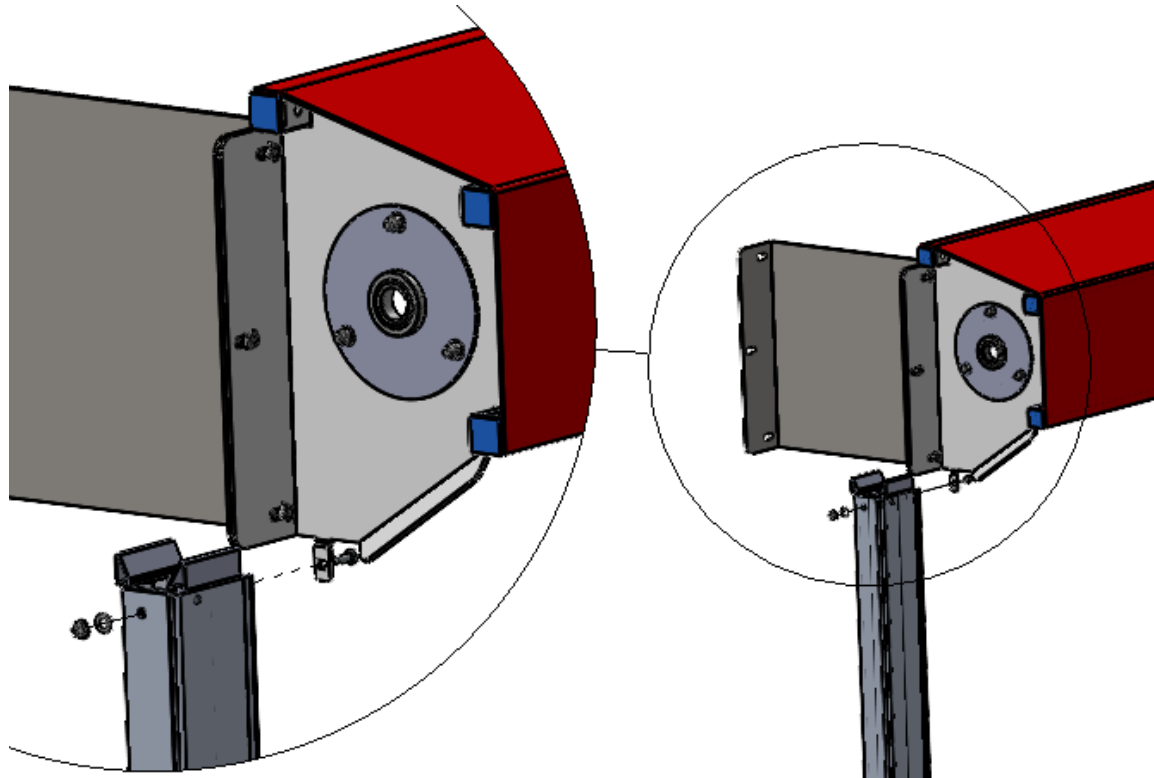

Figure 6 MOUNT TRACK TO HEADER
1. Align the square hole in the metal Transition Bracket of the Track Assembly with the square hole in the lower mounting tab on the Header Bracket. Insert the carriage bolt from the inside of the transition and the washer and hex nut on the outside of the assembly, as shown. Just snug this hardware for now. (Figure 6 MOUNT TRACK TO HEADER)